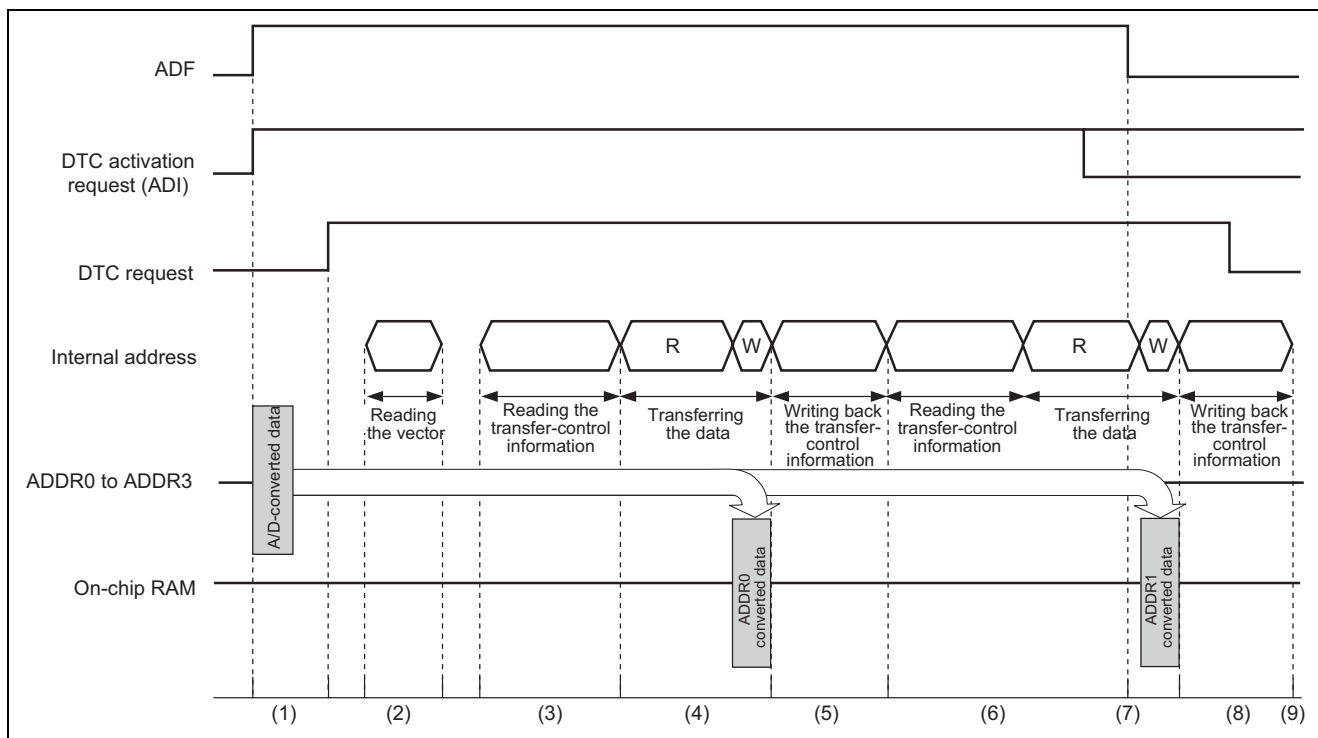
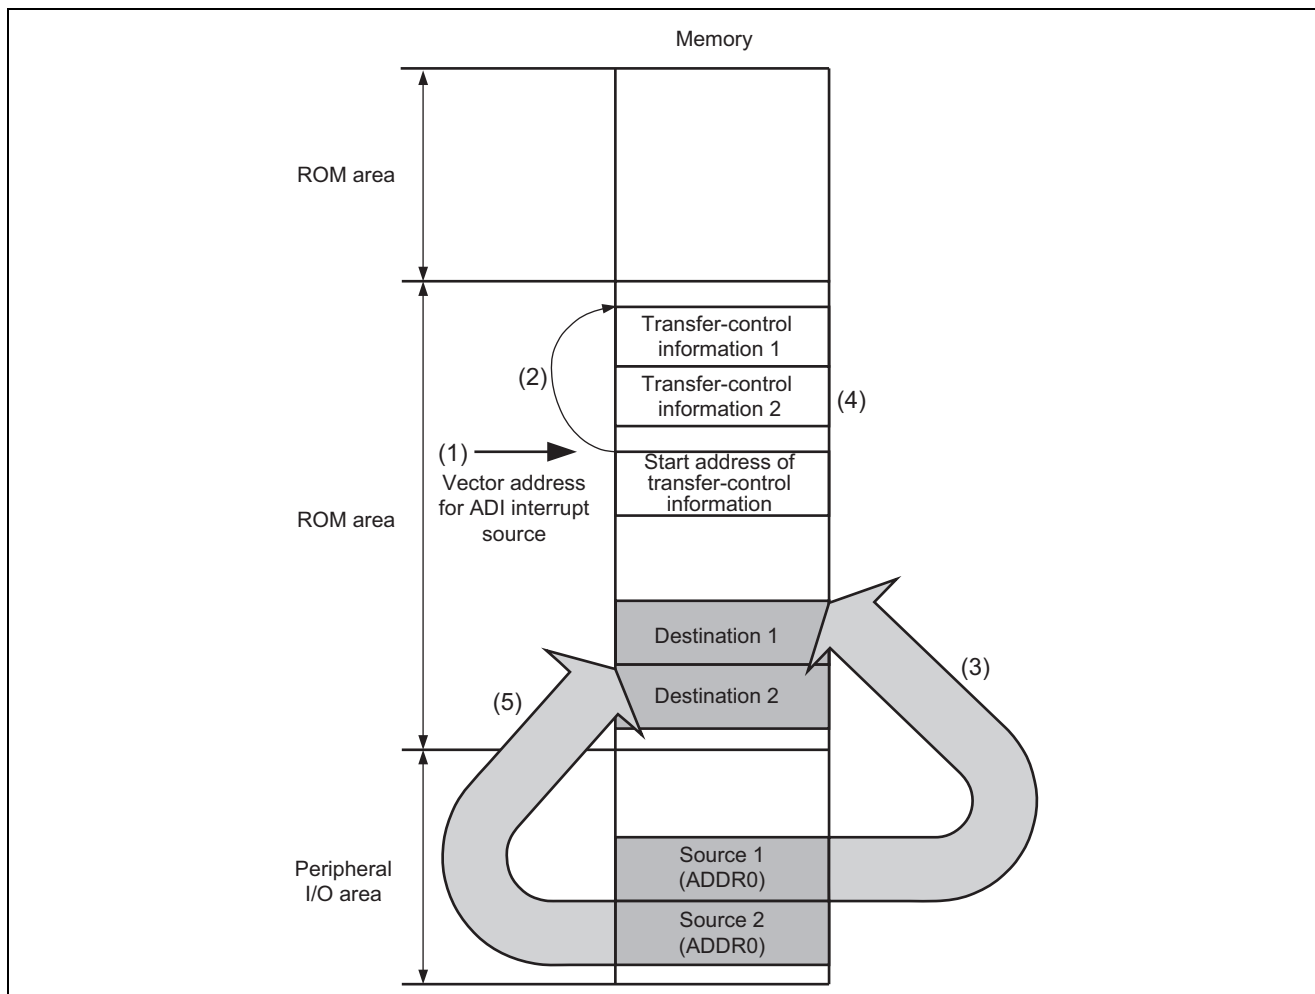

Figure 4 Detailed Timing Chart of DTC Transfer
Figure 5 Flow of Data in Memory
Figure 4 is a timing diagram for A/D conversion, DTC activation and data transfer. The processes are shown in table 3.
A more detailed timing diagram of the DTC transfer operations is given as figure 4.
In DTC transfer, DTC activation sources (in this case, ADI interrupt request) generate DTC requests. Mastership of the internal bus is secured and the DTC is activated (figure 4(1)). The address where the control information for the transfer starts is read from the vector table of ADI activation sources (figure 4 (2)) that has been set up for this example. The information is then read, starting at the given address (figure 4 (3)). After that, the data is transferred from the source address (ADDR0) to the destination address (on-chip RAM) (figure 4 (4)). The transfer control information is then written back (figure 4 (5)). This is followed by reading of the next set of transfer control information after which the data from the source for the next transfer (ADDR1) are transferred to the destination address (in the on-chip RAM) (figure 4 (6)). The ADF bit is automatically cleared in response to reading of the ADDR (figure 4 (7)).
Finally, the control information for the transfer is written back (figure 4 (8)). The DTC releases the bus after the writeback operation (figure 4 (9)).
The flow of data in memory for the operations shown in zones (2) to (6) of figure 4 is illustrated in figure 5 and described in table 4.
Table 4 Description of Figure 5